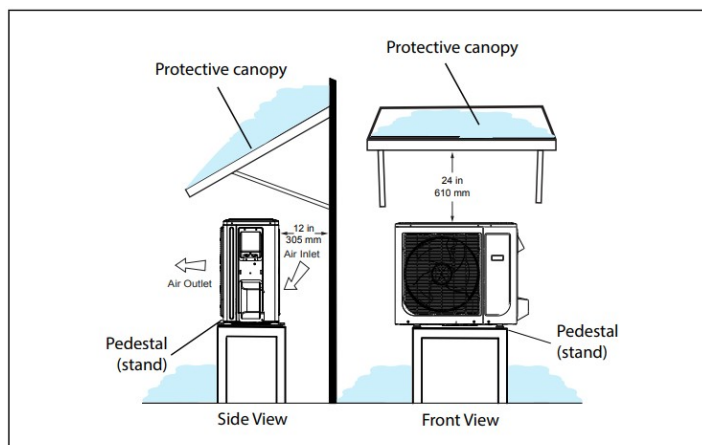
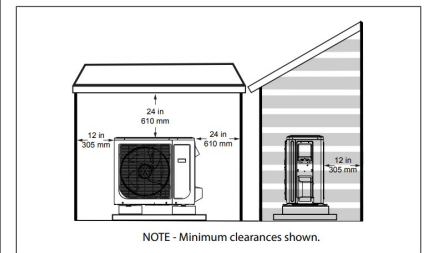

Figure 23. Outdoor Unit on Pedestal (Stand) and Protective Canopy
Figure 28. Dog House-Style Shelter
- If the outdoor unit is subjected to prolong exposure to direct sunlight with temperatures over 100°F (38°C) a canopy is recommended as illustrated in "Figure 23. Outdoor Unit on Pedestal (Stand) and Protective Canopy" or "Figure 28. Dog House-Style Shelter" on page 17.
- Place unit away from overhanging roof lines which would allow water or ice to drop on, or in front of, coil or into unit. Construct a canopy as illustrated in "Figure 23. Outdoor Unit on Pedestal (Stand) and Protective Canopy".
- Outdoor unit can be installed in a dog house style shelter as illustrated in “Figure 28. Dog House-Style Shelter”.